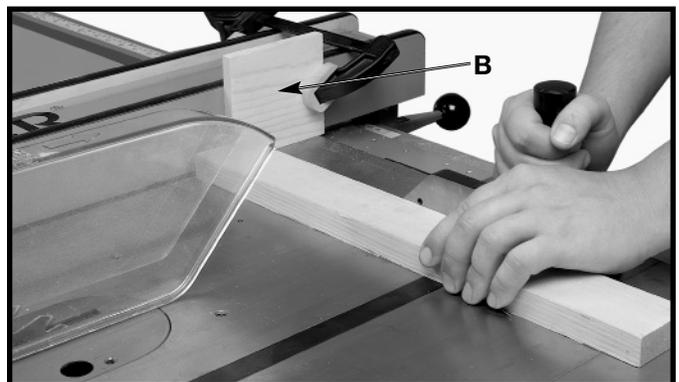

Fig. 49A
When cross-cutting a number of pieces to the same length, a block of wood (B) Fig. 49A can be clamped to the fence and used as a cut-off gage. It is important that this block of wood always be positioned in front of the saw blade as shown. Once the cut-off length is determined, secure the fence and use the miter gage to feed the work into the cut. This block of wood allows the cut-off piece to move freely along the table surface without binding between the fence and the saw blade, thereby lessening the possibility of kickback and injury to the operator.
**⚠ CAUTION WHEN USING THE BLOCK (B) FIG. 49A, AS A CUT-OFF GAGE, IT IS VERY IMPORTANT THAT THE REAR END OF THE BLOCK BE POSITIONED SO THE WORK PIECE IS CLEAR OF THE BLOCK BEFORE IT CONTACTS THE BLADE.**